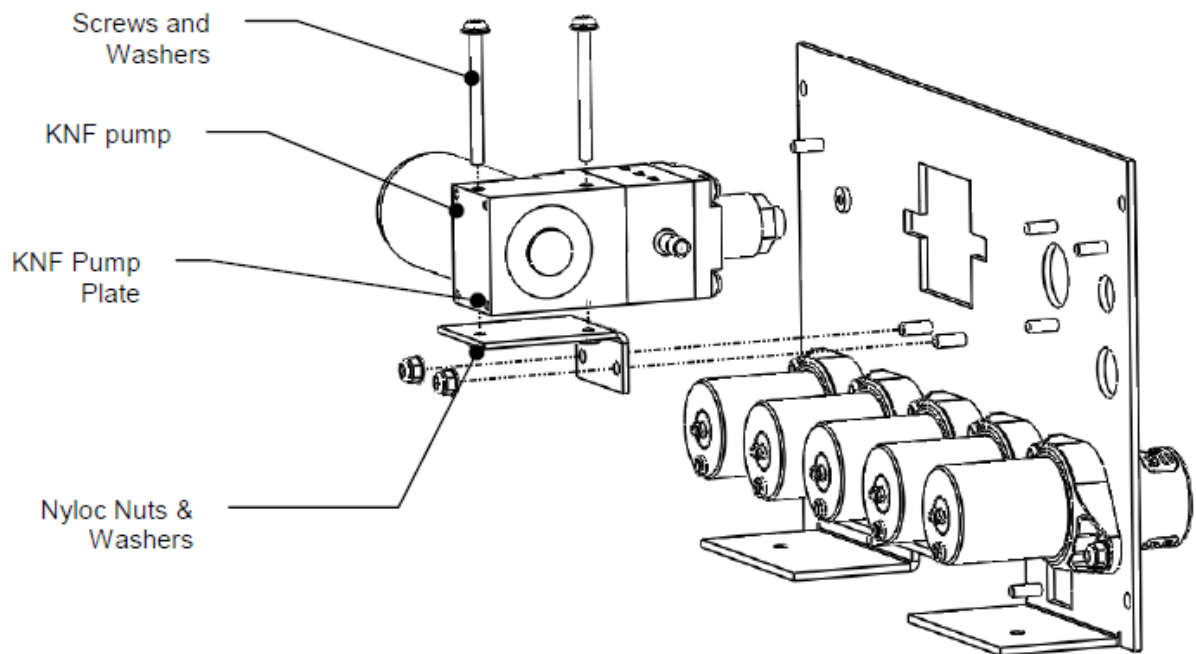

Figure G-11: Replacing the KNF Pump Assembly
1. Remove the pump and plate assembly from the Fluidics Panel as shown in Figure G-11 by removing the two M3 Nyloc Nuts.